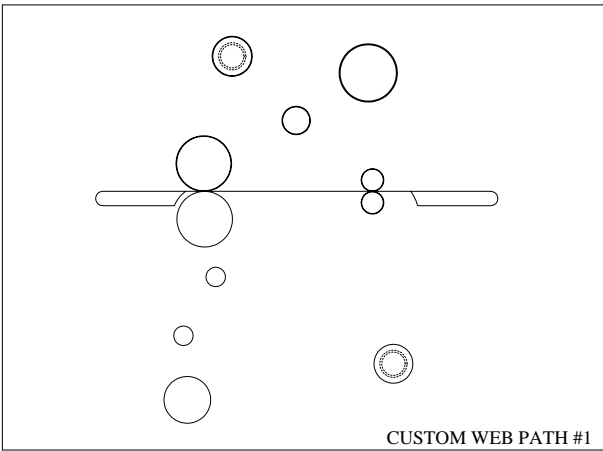

Figure 37
**TIPS FOR CUSTOM APPLICATION #1 (Fig. 37)**